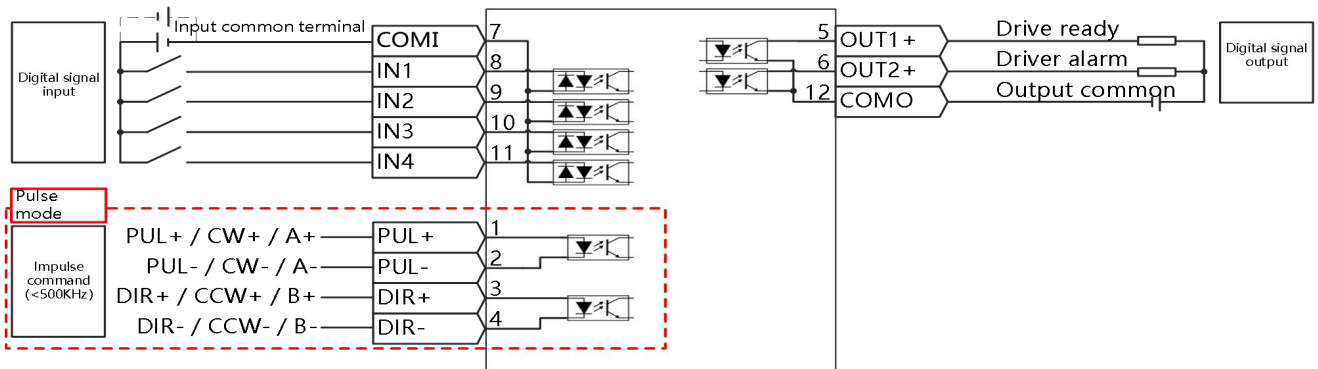
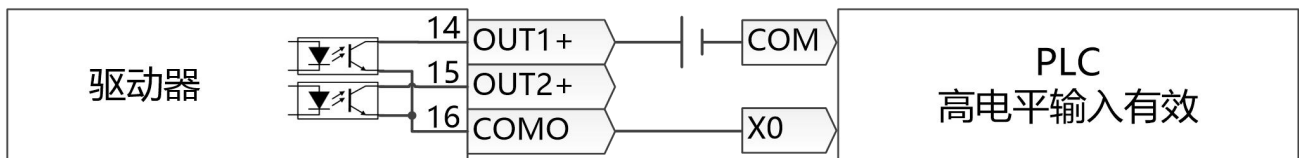

Figure3-3 MD series control wiring diagram
Figure3-4 PNP input wiring
- Figure 3-3 shows the wiring with default IO function. More IO functions can be defined by the Kinco servo software. For more details on IO functions, please refer to the relevant sections.
- For digital output, Figure 3-3 only shows NPN connection, and Figure 3-4 shows PNP connection